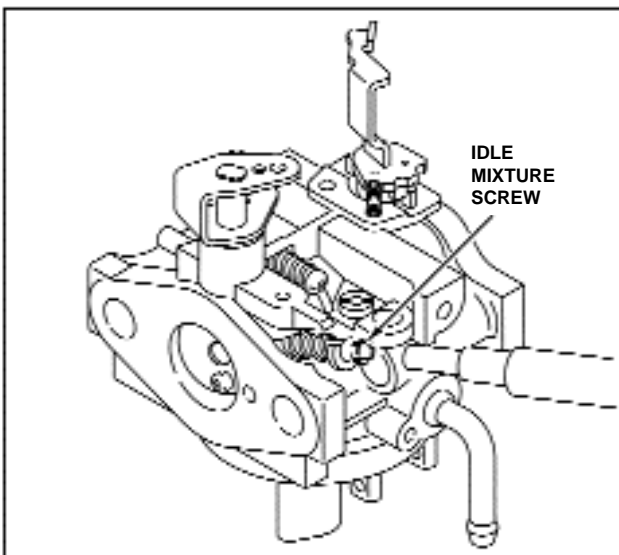

Figure 40 - Installing Idle Mixture Screw, Limiter Cap
8. Place idle mixture screw limiter cap on to idle mixture screw, with half moon segment down. See Figure 40.